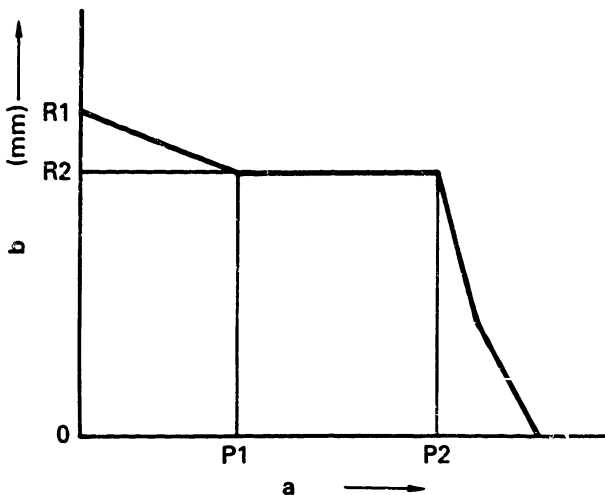

Fig. 80
-1. When the performance of the pneumatic governor is as shown in Fig. 80:
- a. Maintain pump speed at 500 rpm and reduce the pressure of the pneumatic governor's negative pressure chamber to P_2 mmAq (Fig. 80).
- b. Adjust the cap so that the control rack moves 0.01 to 0.05 mm from position R2 in the "fuel-decrease" direction, and secure with the nut. (Figs. 80 and 81)